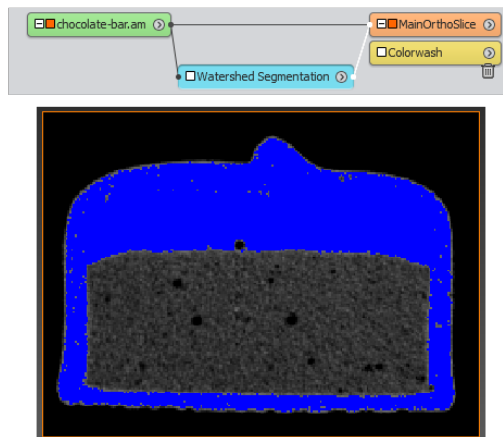

Figure 4.76: The *Watershed Segmentation* wizard at step 6.
- You can use 1041-1910 as range here (see Figure 4.76). The mousse area should be avoided as much as possible.